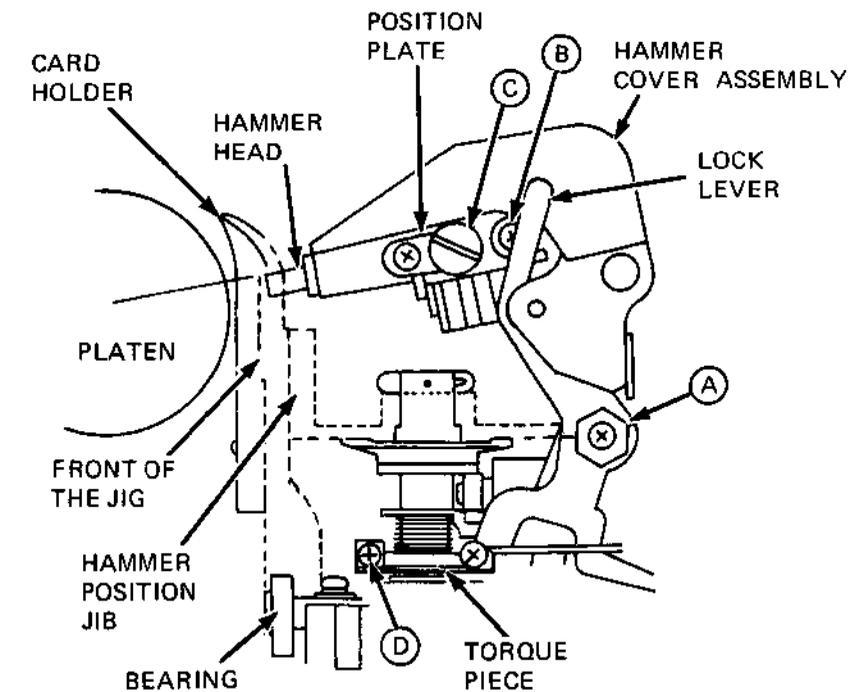

Figure 5-1 Print Hammer Adjustment
- Loosen the screw securing eccentric stud A (see Figure 5-1).
Use this procedure to adjust the hammer position (see Figure 5-1).
- Loosen the holding screws B and C on both sides of the hammer (see Figure 5-1).
- To adjust, turn the power off. Loosen screw D (see Figure 5-1) of the torque piece. Turn the power on and turn the torque piece for proper alignment. Tighten screw D.